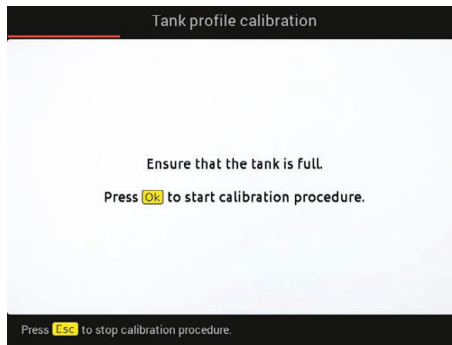

Fig. 147
- 5** The message in Fig. 147 is displayed: follow the instructions, then start the procedure by pressing **OK**.